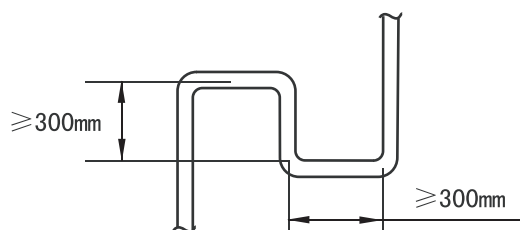

Fig.5-2
3. When the outdoor unit is on the top position and the difference of level is over 20m, it is recommended that set a oil return bend every 10m in the air pipe of the main pipe, the specification of the oil return bend refers to Fig.5-2.
Pipe name	Code (As per the Fig. 5-2)
e.x.1: Refer to Fig.5-2, the capacity of downstream units to L2 is 71×2+140+28=310, i.e. low pressure gas pipe for L2 is Φ22.2,high pressure gas pipe is Φ19.1,high pressure liquid pipe is Φ12.7.
- 2) Take Fig.5-2 as an example. Provided that the equivalent length of all pipes in this system is larger than 90m.